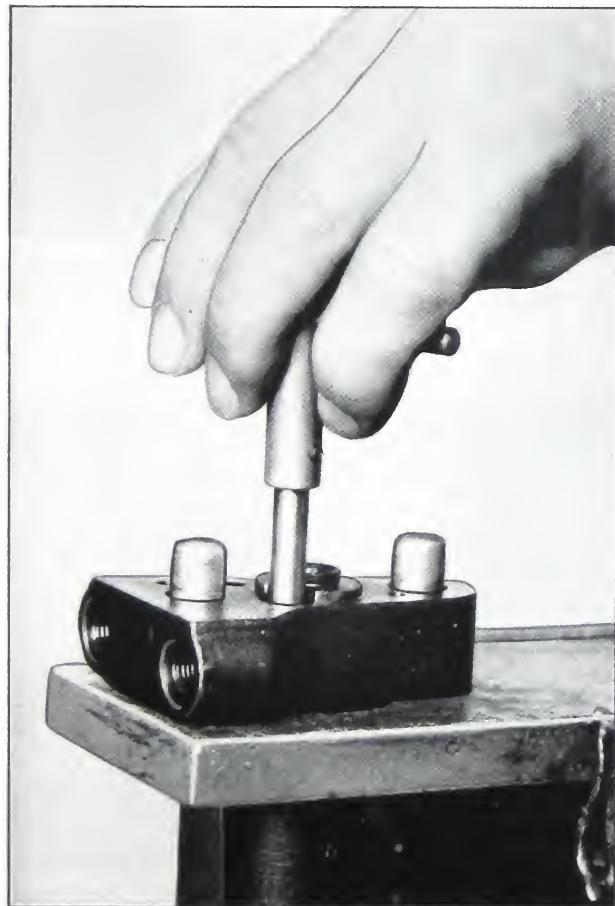

Fig. 6-21. Refacing valve and gasket seats
3. ST-147 is a seating cutter to reface check valve seat and gasket seat in the injector body. These two cutters should never be used except when valve seat has been damaged. If used, they should be adjusted exactly $2\frac{1}{8}$ " apart to maintain proper check valve travel after assembly. See Fig. 6-21.